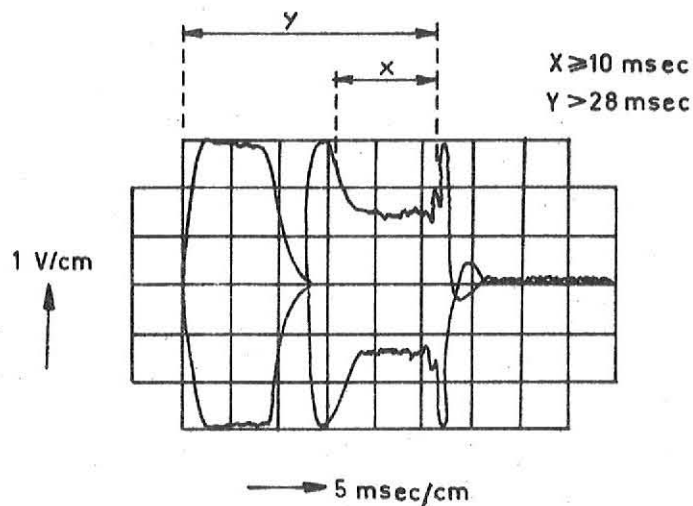
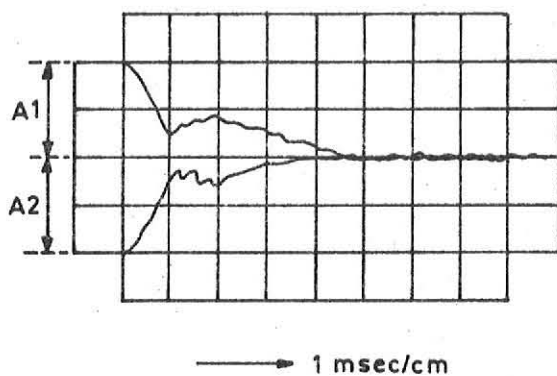

Figure 7-7
Figure 7-9
- Turn potmeter SE3 CW (speed is increased) till the current is correct, see fig. 7-7 with due regard to on point 11. When the speed becomes higher turn SE 4 CW till it is correct, see fig. 7-9.
11. Now trigger the scope pos on sign. \overline{EC} , pin 13 of card DC. Connect channel B on pin 29 of card SE (speed signal). Measure the speed of incidence. This must be between 10 and 13 cm/sec. This agrees with a voltage of 400-450 mV. The fig. 7-9 gives the correct pattern, A1 and A2 must be 400-450 mV. If it is not correct turn potmeter SE4. (CC W bigger and C.W smaller).